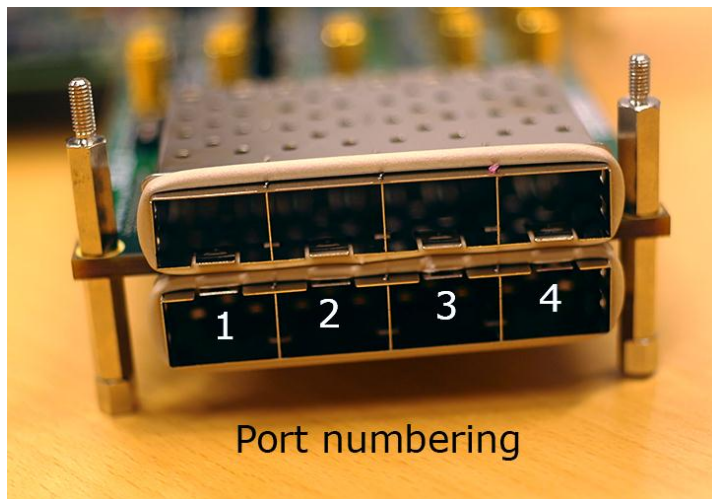

Figure 17. Port Numbering of SFP HSMC Board
Figure 17 shows the SFP HSMC board port numbering.
- D17: Port 1 (refer to Figure 17)
- D16: Port 2 (refer to Figure 17)
- D15: Port 3 (refer to Figure 17)
- D14: Port 4 (refer to Figure 17)